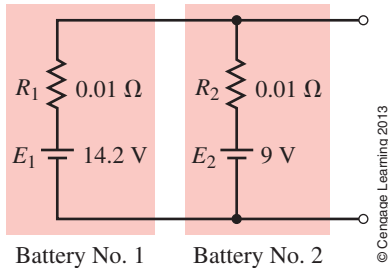

FIGURE 6-70
28. Two lead-acid automobile batteries are connected in parallel, as shown in Figure 6-70, to provide additional starting current. One of the batteries is fully charged at 14.2 V and the other battery has discharged to 9 V. If the internal resistance of each battery is 0.01Ω , determine the current in the batteries. If each battery is intended to provide a maximum current of 150 A, should this method be used to start a car?